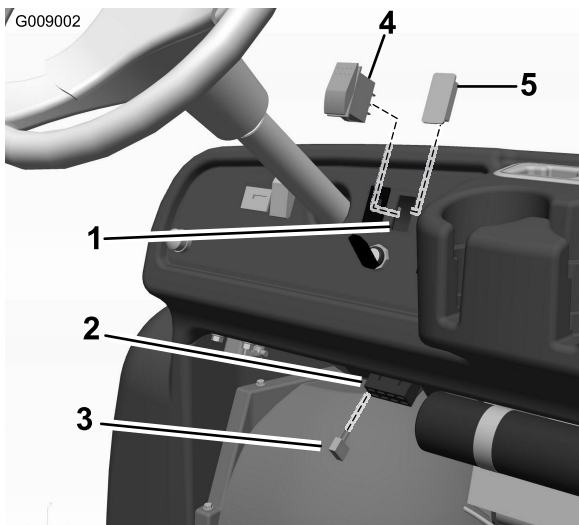

Figure 6
- Remove the plug from the hole in the right side of the dash (Figure 6).
3. Insert the switch into the open hole in the dash and the fuse into the open slot in the fuse block (Figure 6).